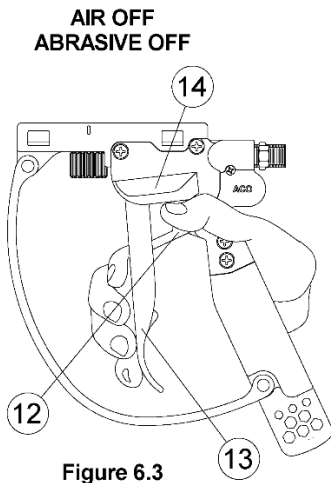

Figure 6.3
- 6.15 Place the thumb on top of safety flap (#12) and just under the curved safety flap guard (#14) on the trigger deadman handle. Thumb must be placed in the proper location to easily move the safety flap down to allow the trigger to move to the blast position. (See Figure 6.3) Only place thumb in ready position when ready to blast. Refer to video link on previous page.